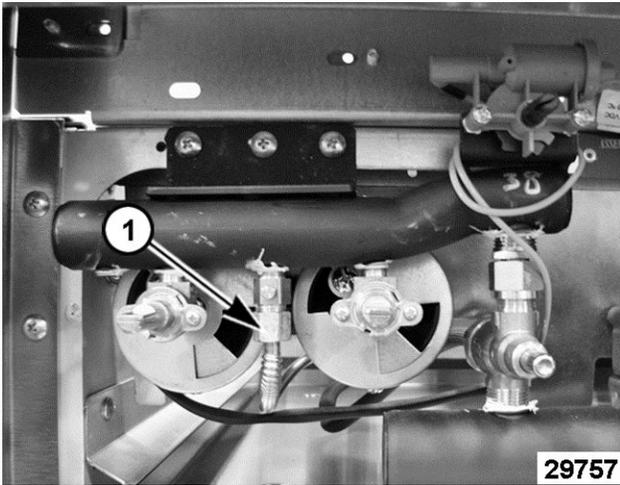

Fig. 85
2. Disconnect pilot flex tube (1, Fig. 85) from gas manifold.